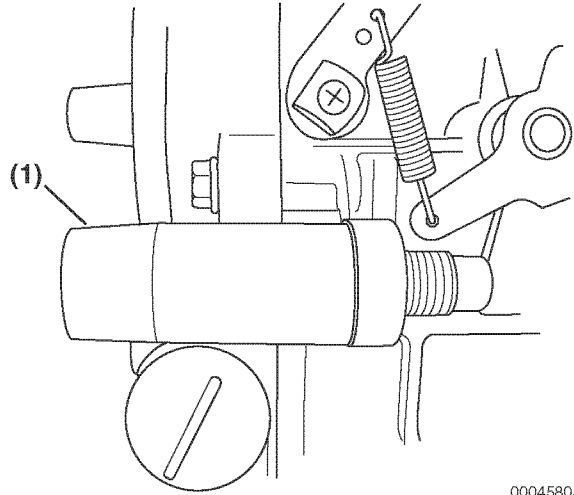

Figure 7-20
If the fuel limiter (**Figure 7-20, (1)**) is damaged, or it is obvious the fuel limiter adjustment has been tampered with, it will be necessary to replace and/or adjust the fuel limiter using the following procedure.